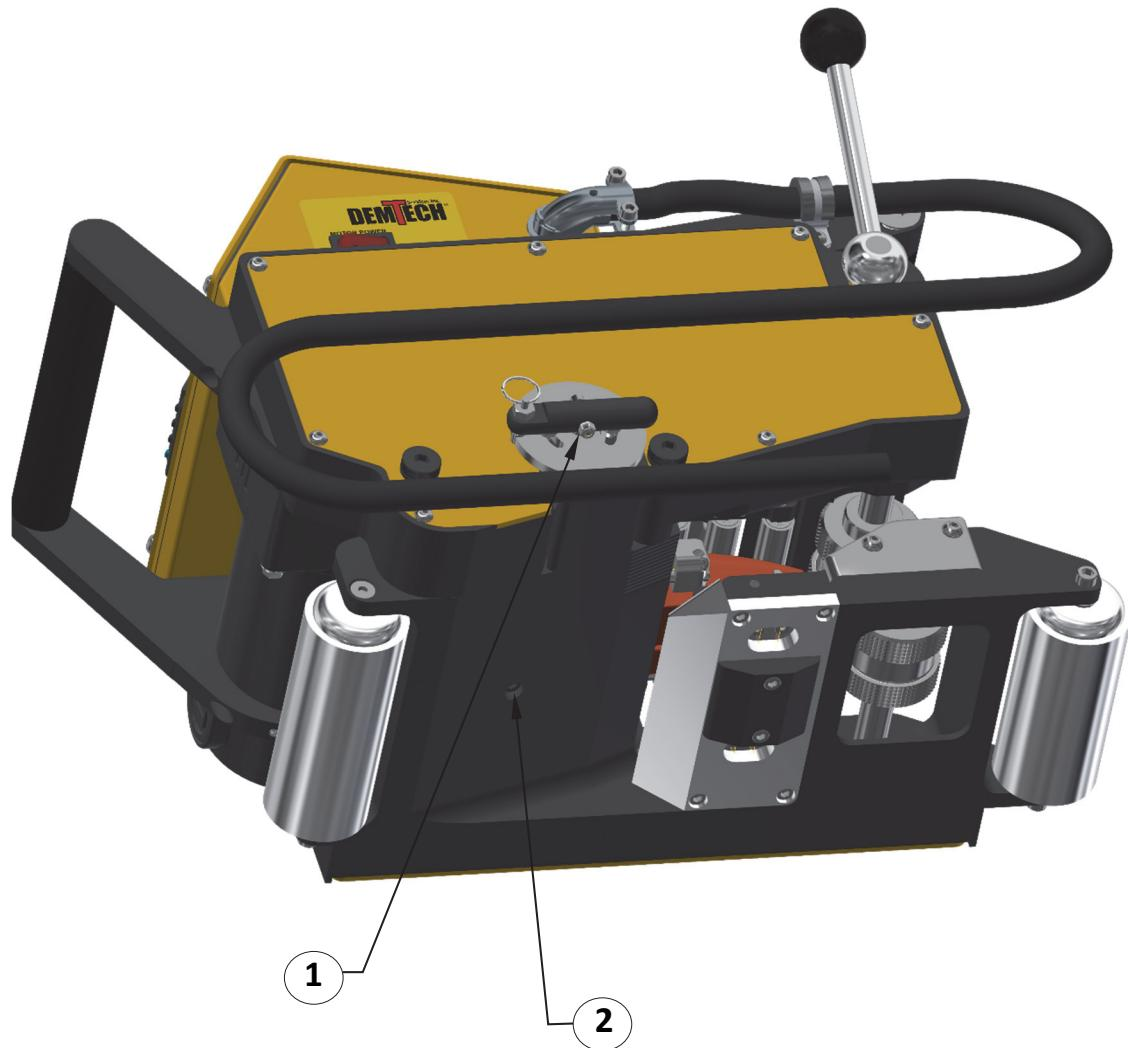

Figure 4
- d. Move the Wedge to the Engaged/Welding position by rotating the Wedge Engagement Handle (1) (see Figure 4) counter-clockwise. Using a 5mm hex wrench adjust the Wedge with the Wedge Height Adjustment Screw (2) (see Figure 4) as needed, up or down, to center the Wedge between the Nip Rollers. Turning the Adjustment Screw clockwise raises the Wedge, counter-clockwise lowers it.